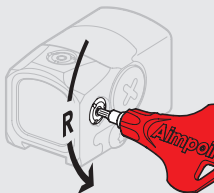
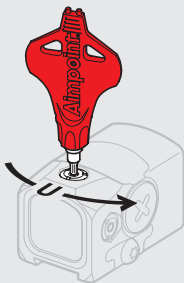

Fig. 3 Windage adjustments
Fig. 4 Elevation adjustments
- b Use the Torx T10 of the Aimpoint tool (8) to turn the adjustment screws (6) (7).
- c Windage adjustments (see Fig. 3):
- Turn windage adjustment screw (6) counterclockwise to move point of impact to the right (R).
- Turn windage screw (6) clockwise to move point of impact to the left.
- d Elevation adjustments (see Fig. 4):
- Turn elevation adjustment screw (7) counterclockwise to move point of impact up (U).
- Turn elevation adjustment screw (7) clockwise to move point of impact down.
- f Ensure the sight is securely installed on the weapon and retighten the screw (5) if necessary.